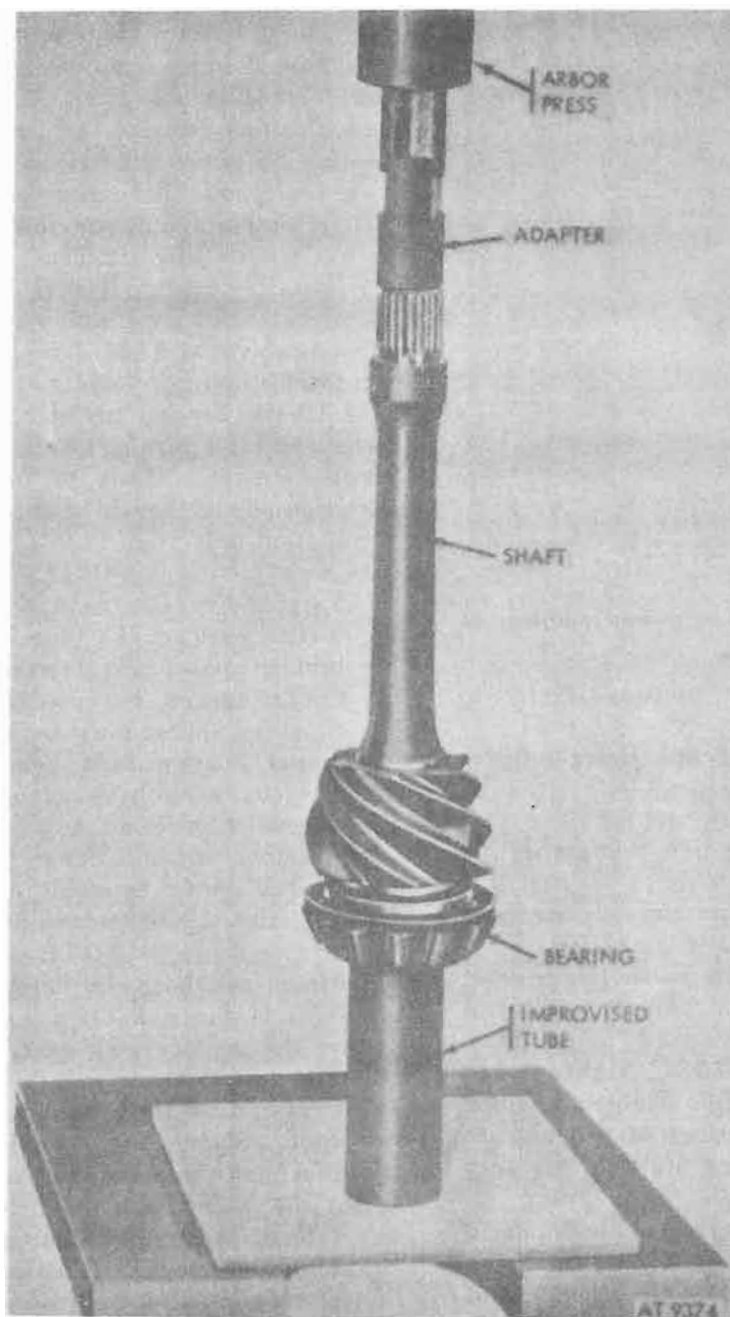

Figure 12-55. Installing inner front bearing on pinion shaft.
a. Install inner front bearings on pinion shaft (fig. 12-55).